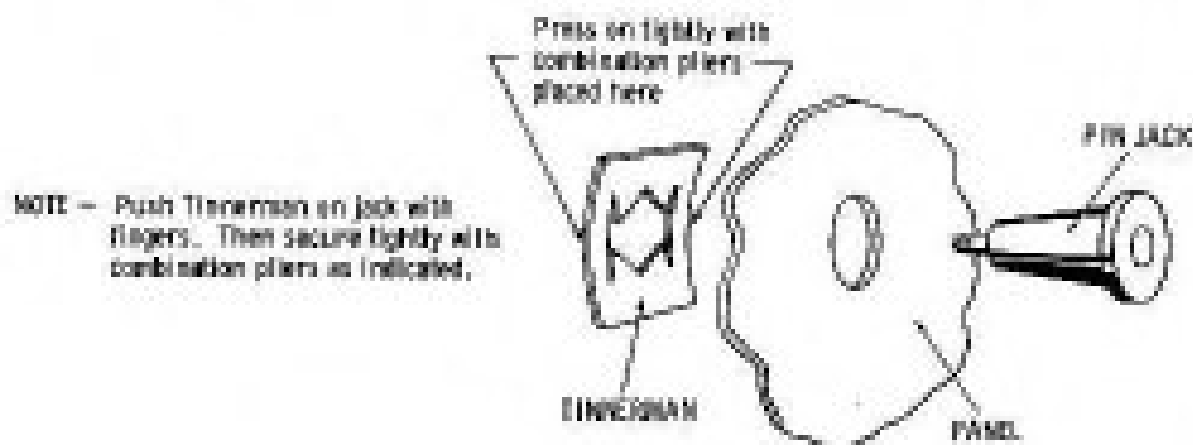

FIGURE 2
- () 1. Insert a red Bakelite pin jack in hole at front panel location A. Position so that flat side of socket tag is horizontal, and secure the jack with Tinnerman fastener, as shown in Figure 2. After jack has been installed, bend the solder lug up toward top of panel.